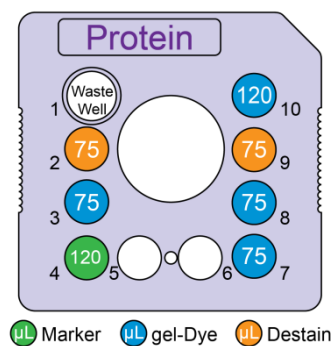
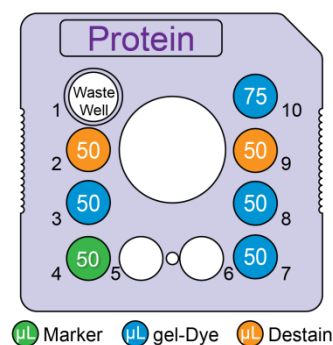

Figure 1. Reagent placement for High-throughput (up to 384 samples)
Figure 2. Reagent placement for Low-throughput (up to 48 samples)
- 2 Using a reverse pipetting technique, transfer 520 μL (HT) or 280 μL (LT) of Protein Express Gel Matrix (red cap ●) to the top basket of a provided spin filter.
- 3 Add 20 μL (HT) or 10.7 μL (LT) of Protein Express Dye Solution (blue cap ●) to the Gel Matrix in the spin filter.
- 5 For Destain Solution, transfer 250 μL (HT) or 180 μL (LT) of Protein Express Gel Matrix (red cap ●) to a second spin filter.
- 9 Using a reverse pipetting technique, add Destain Solution to chip wells 2 and 9 as shown in Figure 1 (HT) or Figure 2 (LT).
- 10 Using a reverse pipetting technique, add Gel-Dye Solution from spin filter tube to chip wells 3, 7, 8, and 10 as shown in Figure 1 (HT) or Figure 2 (LT). Store any unused Gel-Dye Solution in the dark at 2 - 8°C for up to 3 weeks.
- 11 Using a reverse pipetting technique, add 120 μL (HT) or 50 μL (LT) of Marker solution (green cap ●) to chip well 4 as shown in Figure 1 (HT) or Figure 2 (LT).